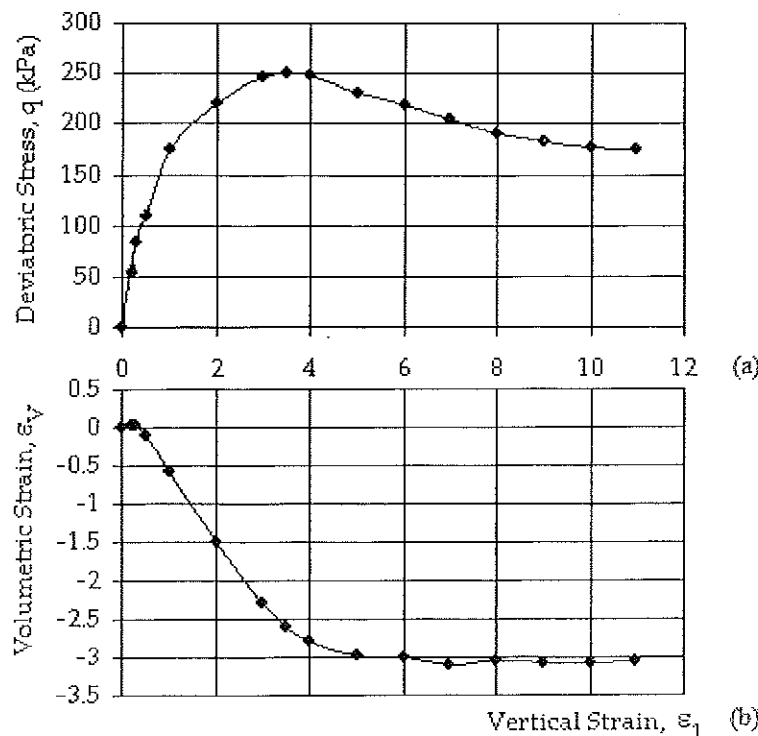
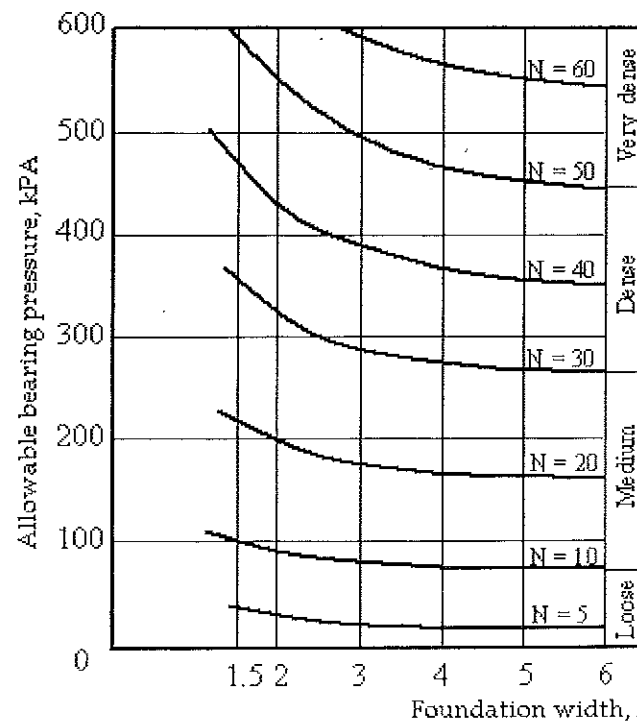

Fig. B4
Fig. B5d
4. Fig. B4 shows the stress-strain behaviour of a saturated dense sand as obtained during a Consolidation Drained Triaxial Loading test.
- a. Compare the variation of deviatoric Stress and the vertical strain, i.e. Fig. B4(a), with the observed stress-strain behaviour of steel obtained from a Tensometer Test. Candidates may identify similarities and the differences. (5 points)
- c. Fig. B4(b) shows the variation of the total specimen volume with increasing vertical strain. The negative y-axis shows that the specimen volume increases compared to its initial volume.
- d. Compare the shear strength parameters, i.e. angle of internal friction and cohesion, obtained from the CD triaxial test with the respective parameters obtained from the Unconfined Compression (UC) Test and the Consolidated Undrained (CU) triaxial test. (4 points)
- d. Explain how Fig. B5d is used when designing a shallow footing. (3 points)